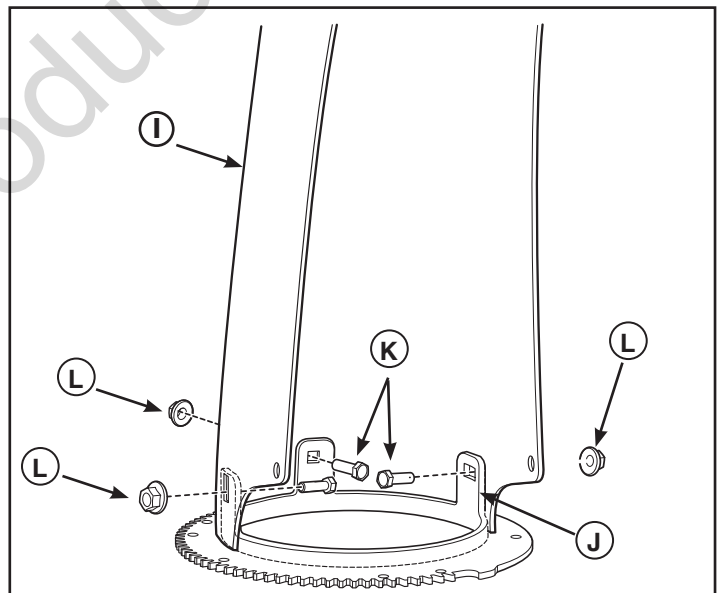

Figure 3
1. Place discharge chute (**I**, Figure 3) over tabs on chute ring (**J**) as shown.